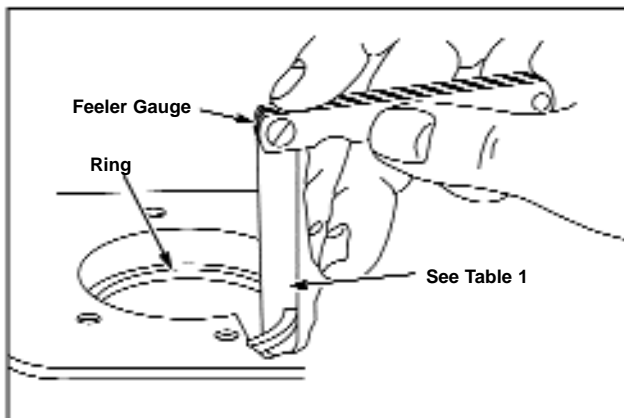

Figure 113 - Checking Ring End Gap
3. Check end gap with feeler gauge, Figure 113.